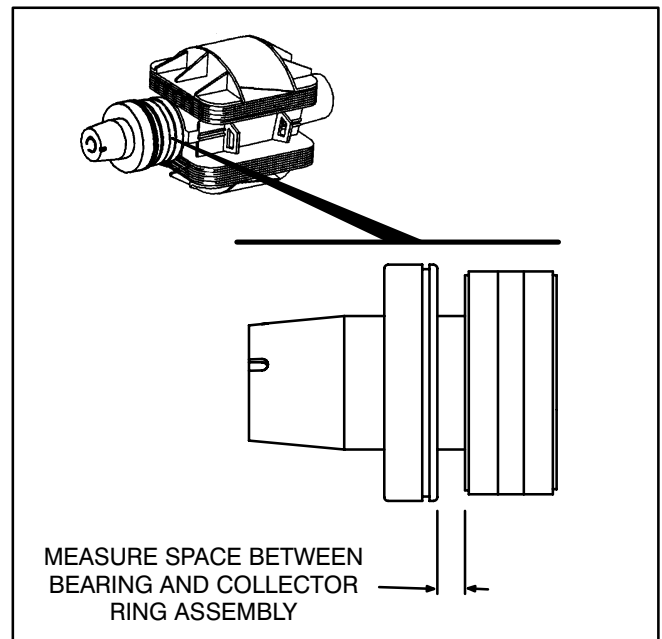

FIGURE 9-11. ROTOR BEARING SPACING
1. Measure and record the distance between the bearing and the collector ring assembly. See Figure 9-11.